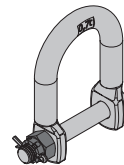

Fig. 18
4. Push the Bolt (3) through the holes of the Crane D-Ring (1). (Fig. 18)
5. Screw Castle Nut (4) on to the Bolt (3) in a clockwise direction.